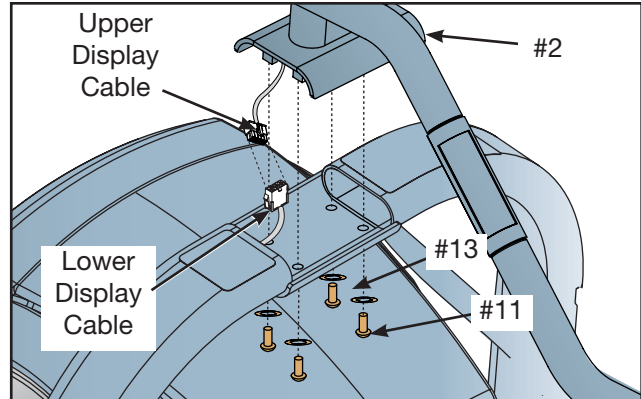

Figure 4
- B. Locate the upper display cable and plug it into the lower display cable in the main frame assembly. See Figure 4.
C. Place the console/handle assembly (#2) in the correct position on the main frame assembly. See Figure 4.
D. Attach the console/handle assembly using the four washers (#13) and four screws .375-16 x 1.50 (#11) as shown in Figure 4. **NOTE:** Do not securely fasten screws at this time.